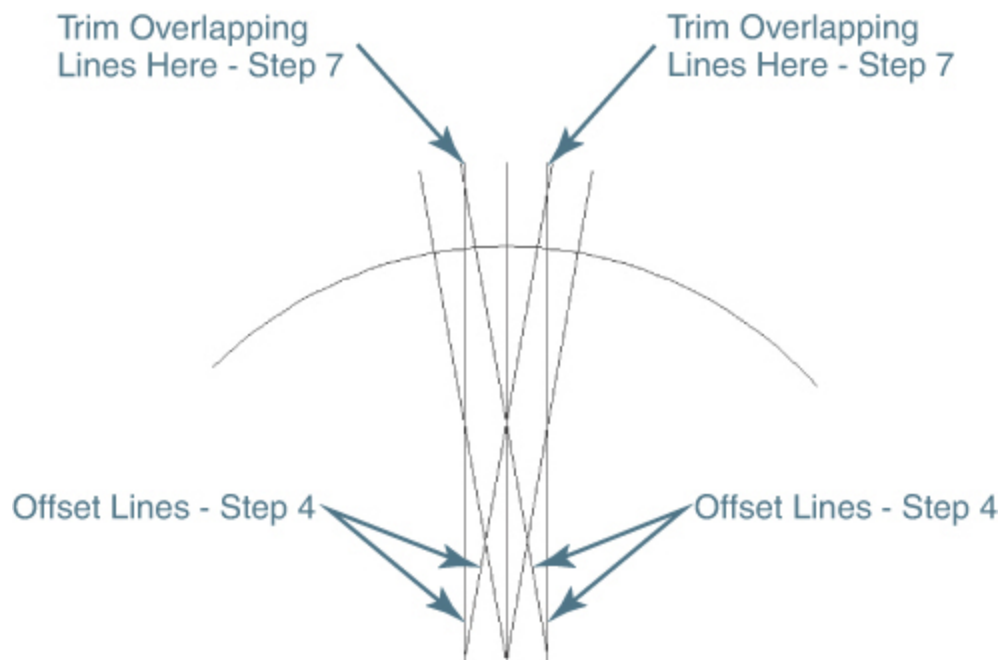
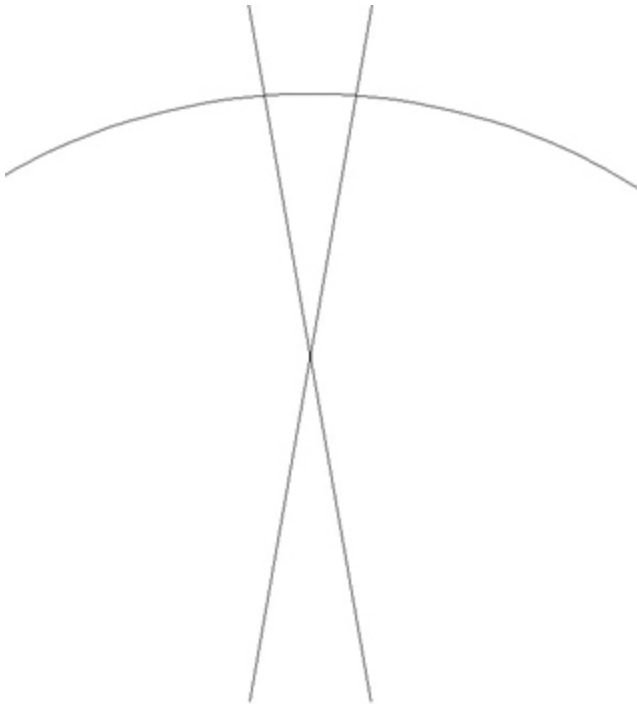

Figure 8-19
Figure 8-20
- 4 Use the **OFFSET** command, and offset each line **.5** unit, as shown in Figure 8-19.
- 6 Pick the points shown in Figure 8-19 to trim the objects so that all overlapping lines at the corners are cleaned up. AutoCAD continues to prompt you: *Select object to trim or shift-select to extend or ↓*.
- 7 Select the **Erase** option. AutoCAD prompts you to *Select objects to erase:*. Select the three vertical lines, the 80° line, and the 100° line that start at the circle center point as shown in Figure 8-19. Press **<Enter>** to erase the selected objects. Your drawing should look like Figure 8-20.